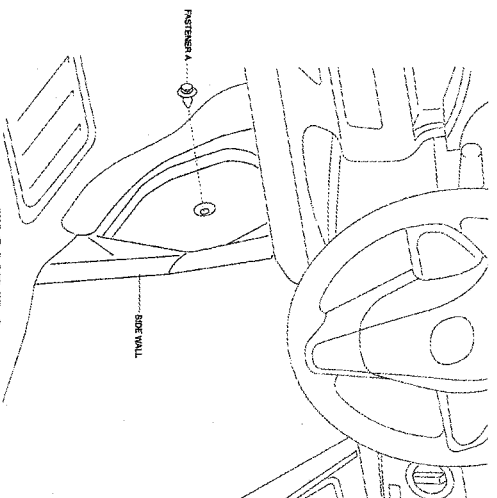

FIGURE 3
- 1.) REMOVE THE FASTENER A. (SEE FIGURE 3)